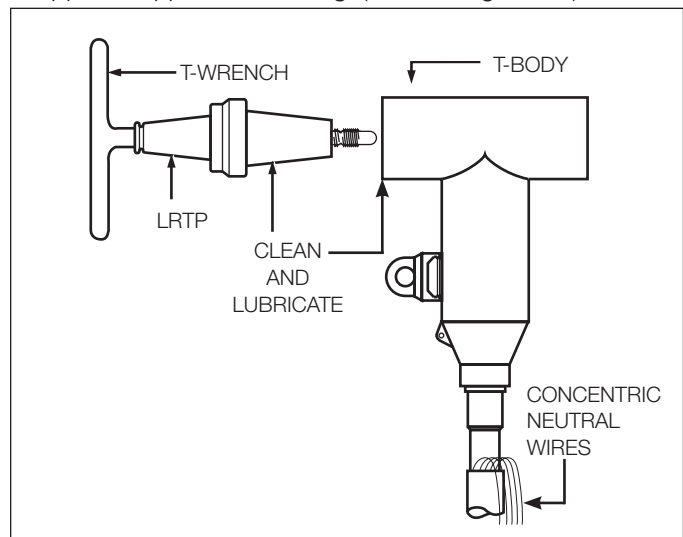

Figure 13.
- Insert threaded ferrule end of LRTP into side of T-Body opposite apparatus bushing. (Refer to Figure 13.)